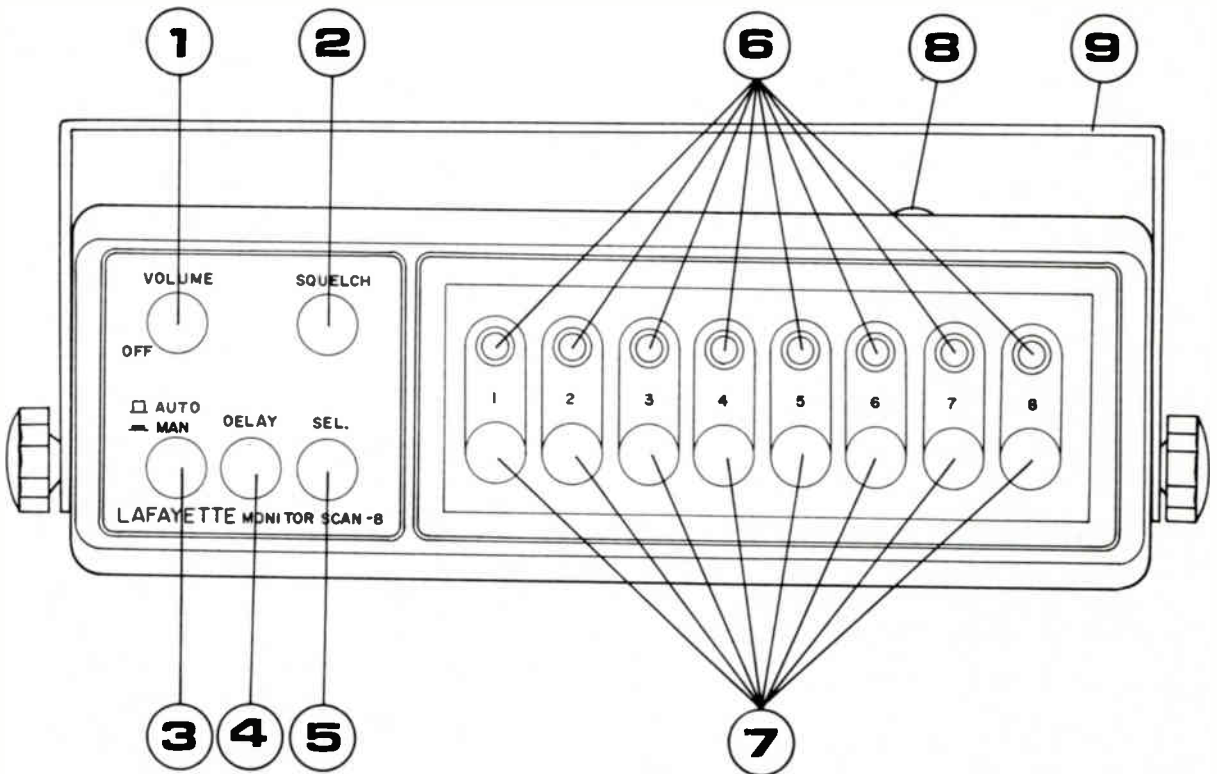

Figure 6. MONITORSCAN-8 Front Panel View
4. Make sure that you have inserted at least one crystal into one of the crystal sockets in the receiver [See Figure 6].